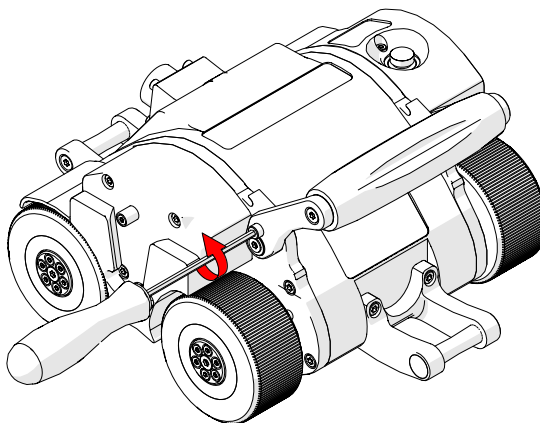

Fig. 24 - Unscrew handle lock screw
1. To lower the handle, use the supplied 3 mm driver to loosen the handle lock screws on either side of the handle (Fig. 24).